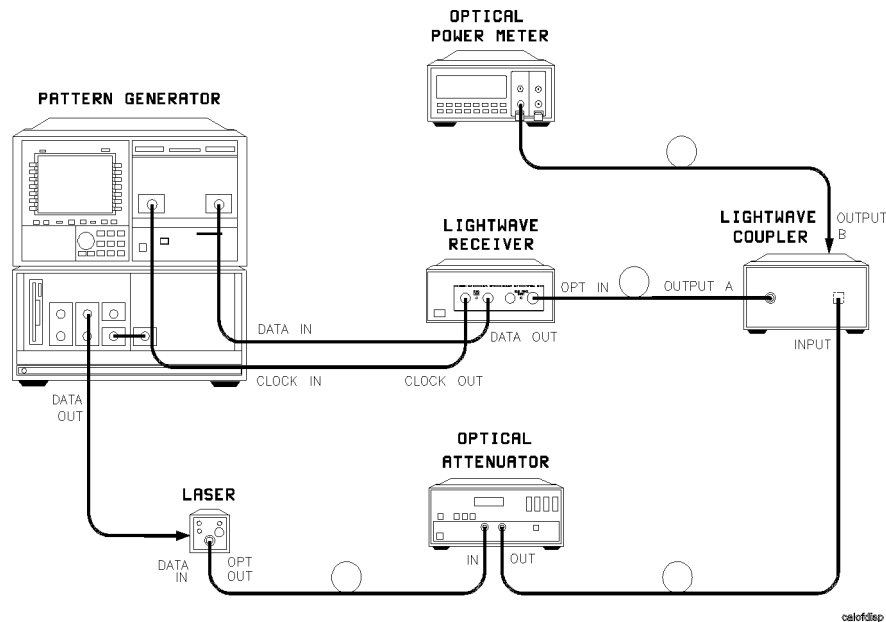

Figure 3-1. Setup for calibration of dispersion power penalty test system.
1. Connect the equipment as shown in Figure 3-1. Set the optical attenuator so the input power to the clock/data receiver is approximately -20 dBm. Confirm the SYNC LOSS LED on the clock/data receiver is extinguished and the BERT reads a bit error ratio of zero. If necessary, perform automatic CLOCK/DATA alignment on the BERT to achieve minimum error ratio. Allow all equipment to warm up at least 30 minutes.